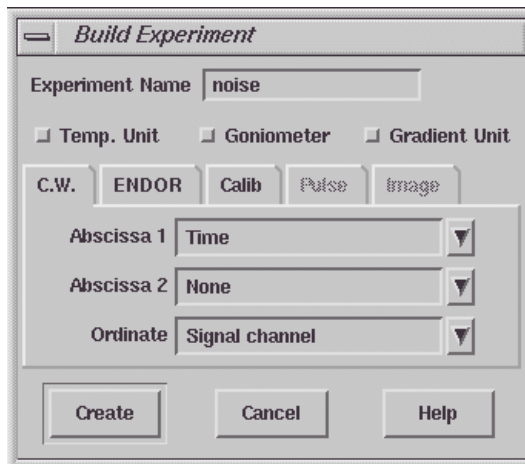

Figure 3-9 Creating a noise measurement experiment.
1. **Create an experiment to measure the noise.** Click the New Experiment button to bring up the dialog box. (See Figure 3-9.) Click the C.W. tab and select Time for Abscissa 1. It is a good idea to assign the Experiment Name as Noise. Click Create to continue.